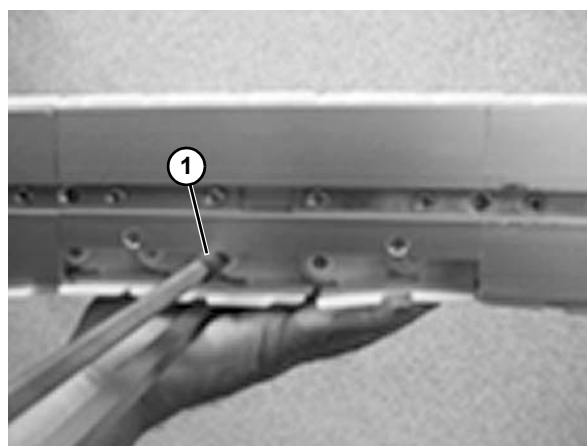

Figure 60
4. Remove excess links and use the chain tool (**Figure 60, item 1**) to put the chain back together again.